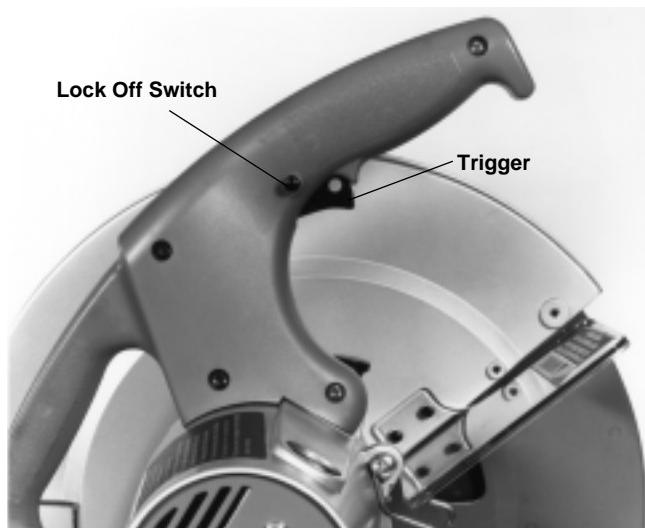

Figure 4 – Switch Controls
#### NOTE! Switch Action (*Figure 4*)
- To start the tool, firmly grasp the handle then depress LOCK-OFF switch button. Keeping the LOCK-OFF switch button depressed, pull the trigger switch (*Figure 4*).
1. To start the tool, firmly grasp the handle, then depress LOCK-OFF switch button (*Figure 4*). Keeping the LOCK-OFF switch button depressed, pull the trigger switch. Be sure to allow the motor to reach maximum speed prior to cutting (*Figure 5*).